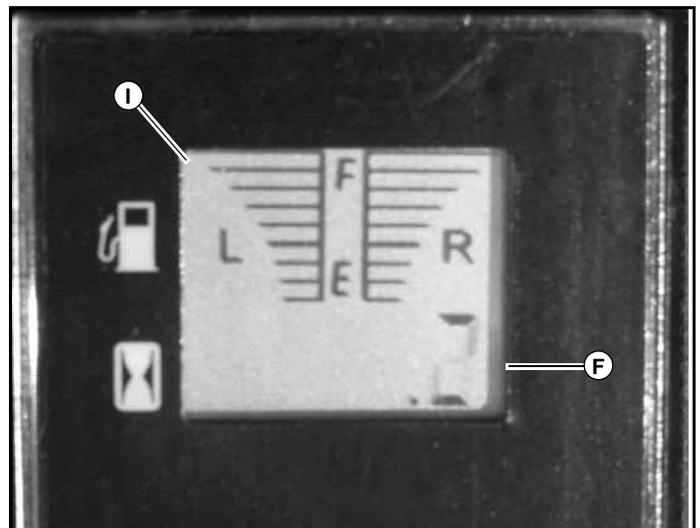

Figure 3-2
- F. Electronic hour meter (Figure 3-1 & Figure 3-2)** — registers 1/10 hour increments up to 9,999.9 total hours. Connected to the ignition switch, the meter records the accumulative time while the ignition key is switched to the RUN position.
- I. Fuel tank gauge (Figure 3-1 & Figure 3-2)** — this gauge shows the fuel level for each fuel tank. The right gauge indicates the fuel in the right tank and the left gauge indicates the fuel level in the left fuel tank.